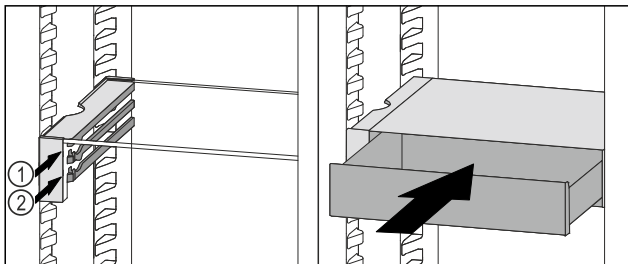

Fig. 44
- ▶ Place the VarioSafe drawer behind the stoppers on desired rib Fig. 44 (1) or Fig. 44 (2).